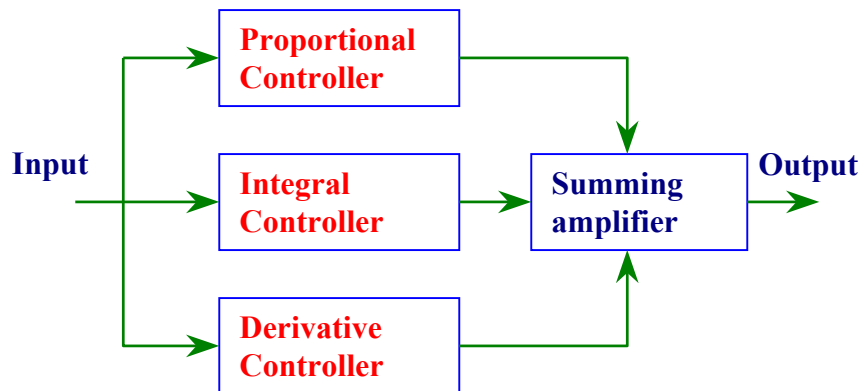

Figure 9-2. Connection of the PID Controller.
3. We will connect the controllers as shown in figure 9-2. The summing amplifier will be a circuit with unity gain and non-inverting output. The output of the summing amplifier will be the combined actions of the three controllers.